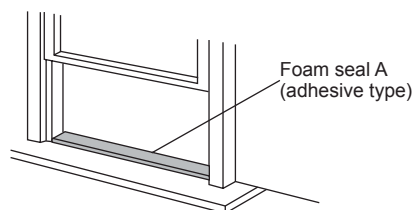

FIG.8
- 1 Cut the foam seal (Adhesive type) to the proper length and attach it to the window stool. Fig. 8.